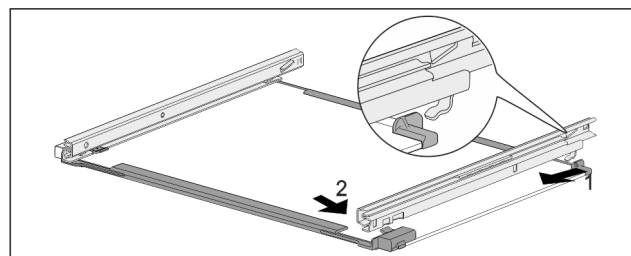

Fig. 165 Glass shelf with rails
- ▶ Hook in rail at the back. Fig. 165 (1)
► Hook in rail at the front. *Fig. 165 (2)*